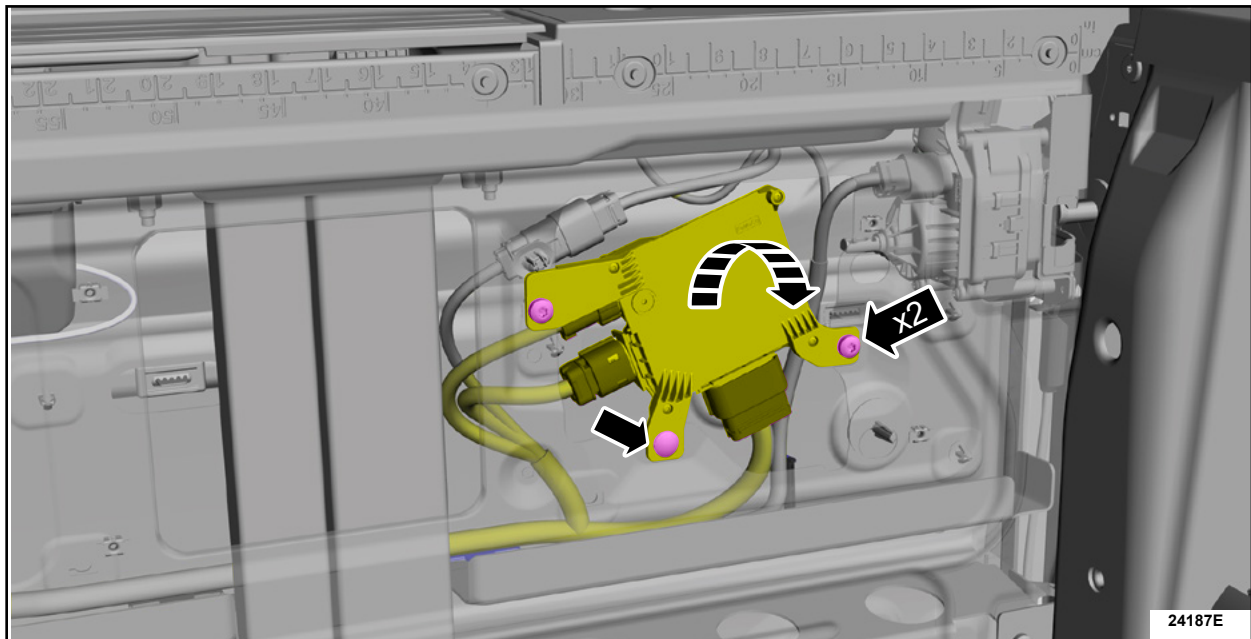

FIGURE 3
3. On the left/driver side of the tailgate, remove the screws and position aside the tailgate park assist sensor interface module and wiring. See Figure 3.